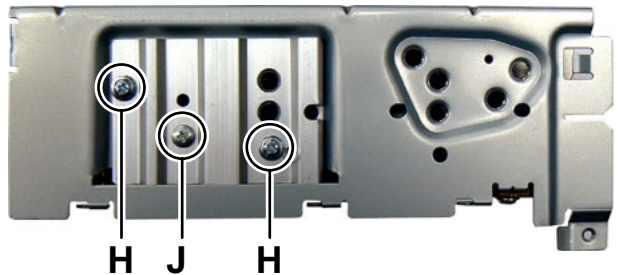

Fig.4
3.1.3 Removing the Main board (See Fig.4, 5)
- (1) Remove the two screws **H** and one screw **J** attaching the Side plate. (See Fig.4)